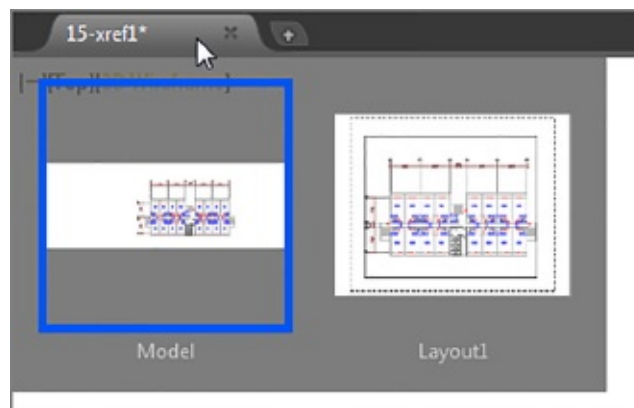

FIGURE 15.3 The Drawing tab's model and paper space preview
1. Hover over the Drawing tab, and you'll see preview images of the model and paper space layouts (see Figure 15.3). The current layout is highlighted with a blue border.